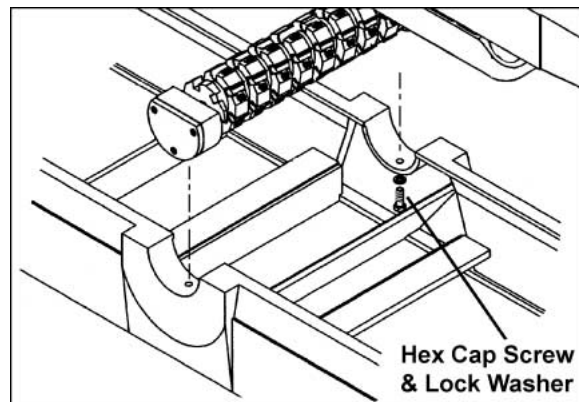

Figure 32
5. Remove the two hex cap screws and lock washers that hold the cutterhead to the bed - these are accessed from the underside of the bearing blocks as shown in Figure 32.